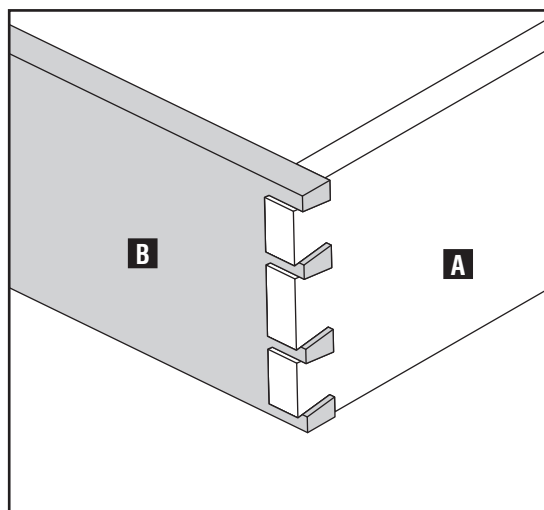

Fig. D16
PROUD: Looking at the tailboard (A) Fig. D16, if the end grain is proud (sticking out above the other board as shown in Fig. D16) then the cut on the tailboard needs to be shallower. To correct, decrease the depth of cut of the router bit.
PROUD: Looking at the pinboard (B) Fig. D16, if the end grain is proud (sticking out above the other board as shown in Fig. D16) then the cut on the tailboard needs to be shallower. To correct, decrease the depth of cut of the router bit.